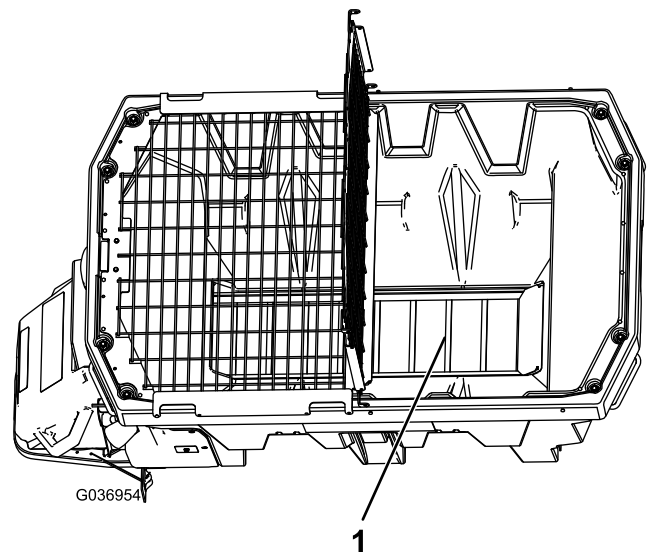

Figure 23
2. Inside the hopper, check the gap between the pintle-chain and the cleanout tray (Figure 23).